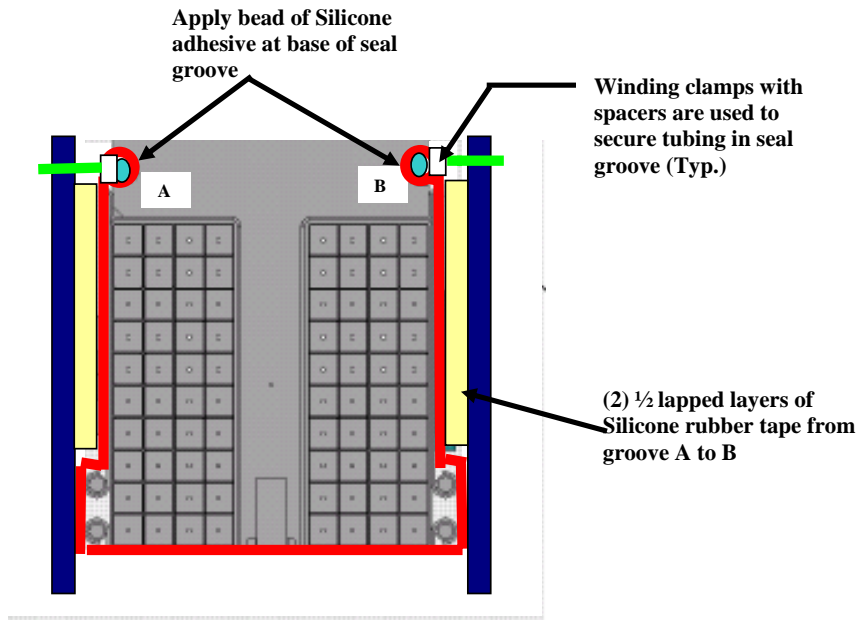
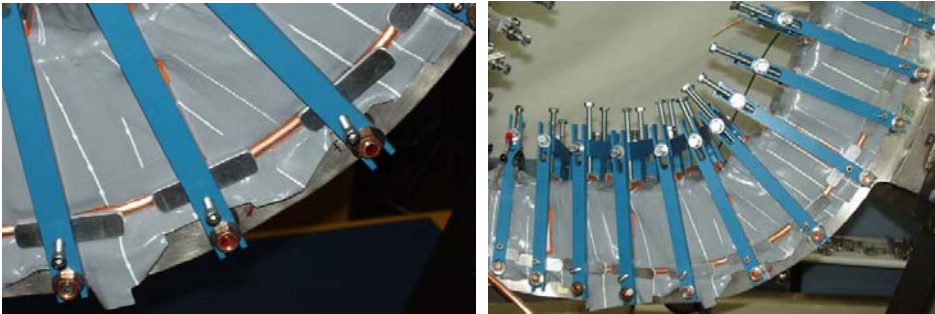

Figure 39- Installation of Bag Mold
Figure 40- Silicone Bag Mold
- 6.46.7 Apply (2) half-lapped layers of the silicone rubber tape over the modular coil bundle chill plate and cooling tube assembly. The silicone tape extends from the Side “A” seal groove across the top to the Side “B” seal groove. Apply bead of adhesive RTV caulking in the seal groove prior to positioning the silicone tape. (Figure 39- Installation of Bag Mold & Figure 40- Silicone Bag Mold)
- 6.46.8 Hold the silicone rubber bag mold in the groove using 5/16" (or 3/8 inch) refrigeration tubing. Use the special VPI winding clamps with spacers to hold the tube in place. (Figure 39- Installation of Bag Mold & Figure 40- Silicone Bag Mold)